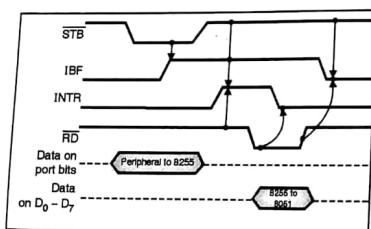

Fig. 9.11.5 : Timing diagram of mode 1 input mode
- The timing diagram of control signals in Mode 1 input mode is as shown in Fig. 9.11.5.